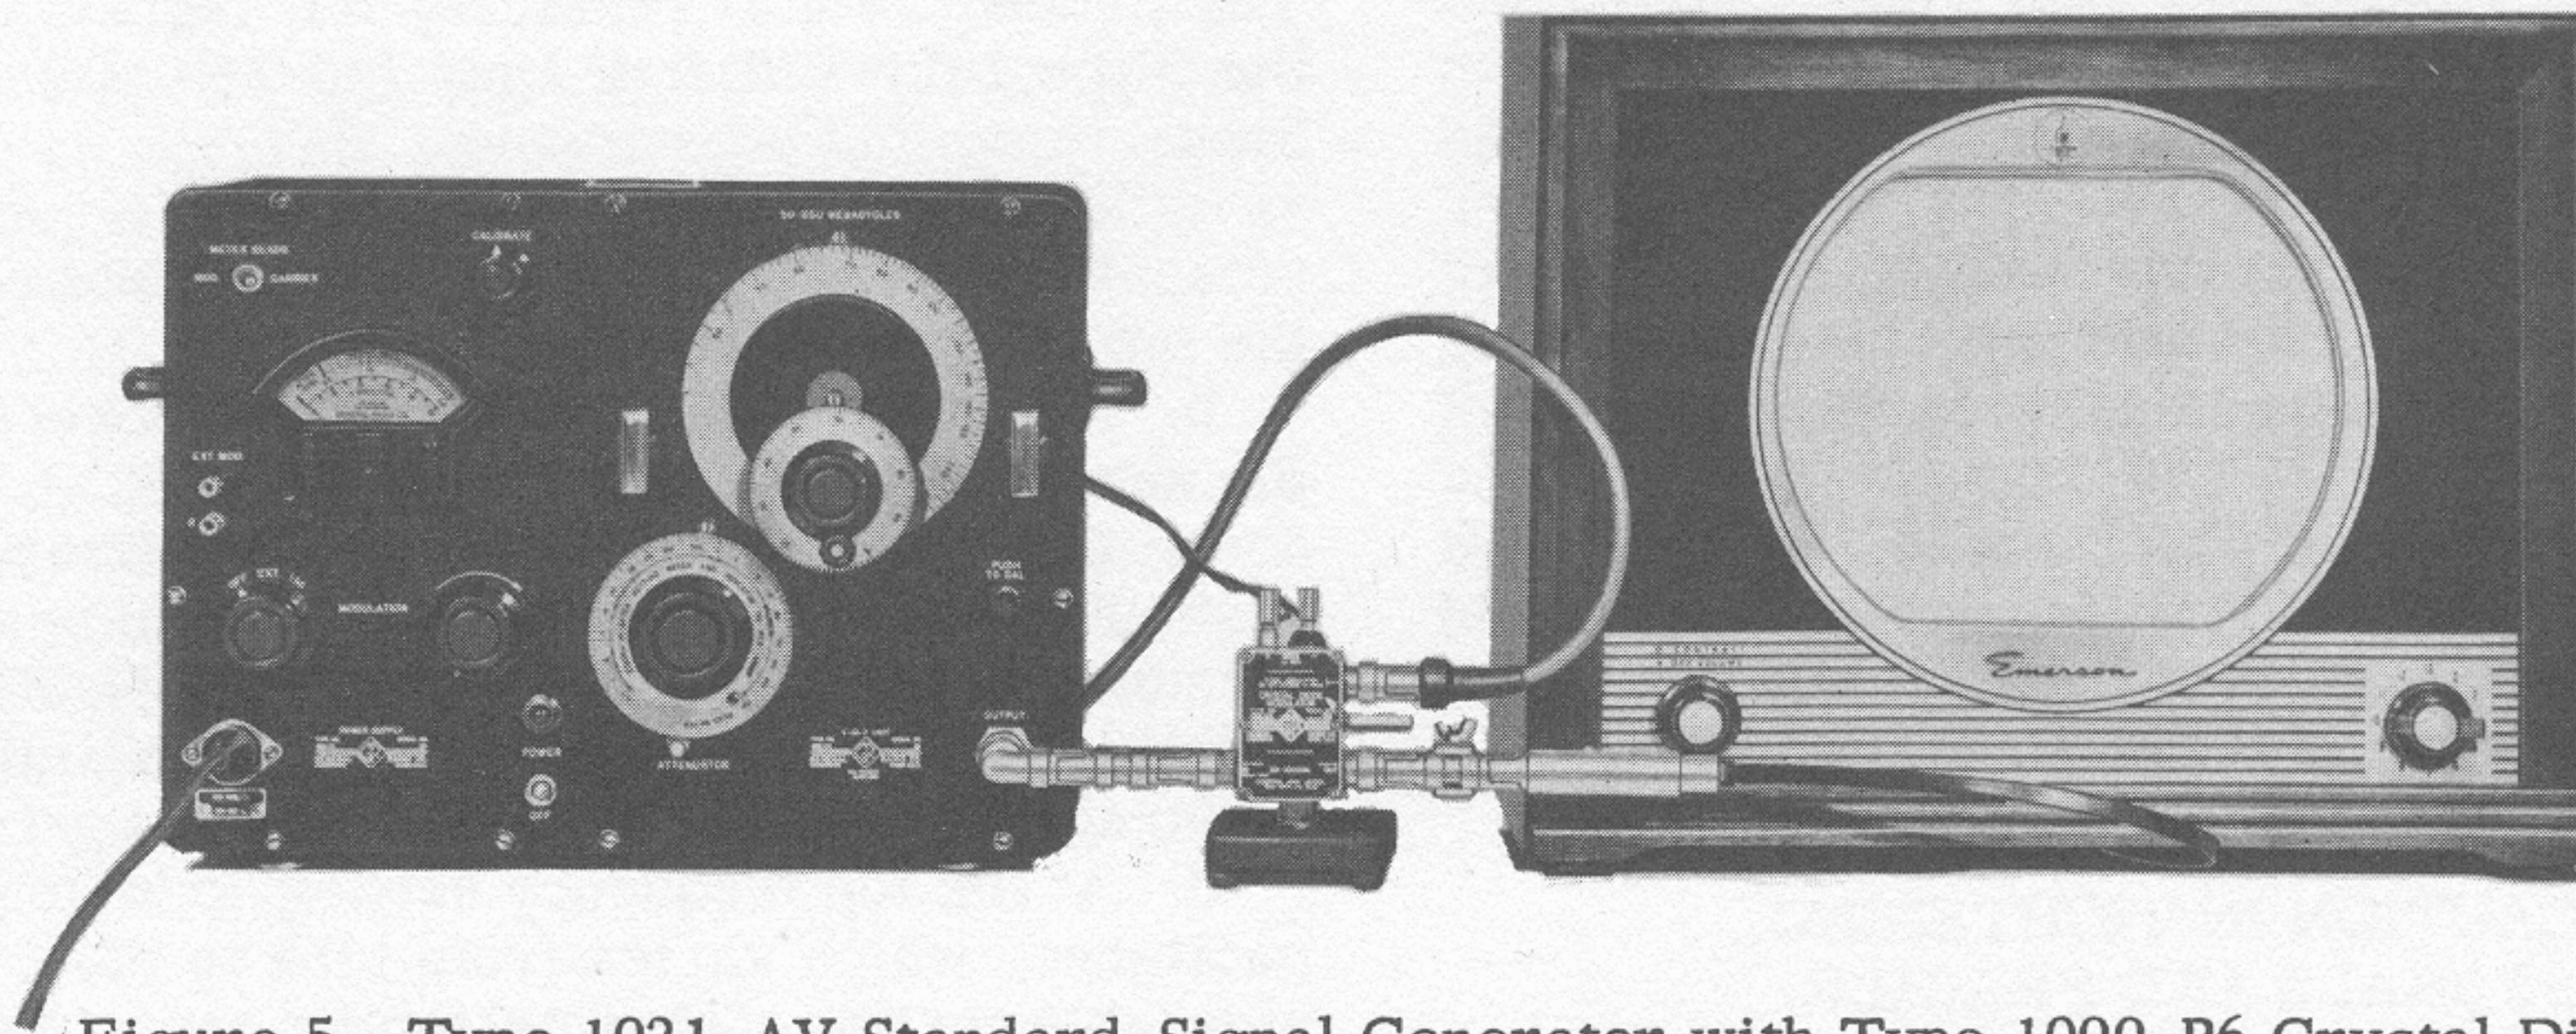

Figure 5. Type 1021-AV Standard-Signal Generator with Type 1000-P6 Crystal Diode Modulator, Set Up for Tests on Television Receiver.
3.9.2 TELEVISION MODULATION. (See Figure 5.) In the Type 1000-P6 Crystal Diode Modulator¹, modulating-frequency voltages are used to vary the resistance of a Type 1N21-B crystal. Therefore, the r-f output of the Standard-Signal Generator can be amplitude-modulated with no incidental fm if the Crystal Diode Modulator is inserted ahead of the load. The modulating-frequency characteristic is flat from zero to several megacycles, and down only 2 db at 5 Mc. A convenient source of video modulation voltages is a television receiver tuned to a local channel. The Type 1000-P6 Modulator is fitted with Type 874 coaxial terminals for the input and output connections and for the modulation circuit. The modulation range is from zero to about 50 percent. The modulator is designed to operate from a 50-ohm source into a 50-ohm load. To avoid distortion, the r-f input to the crystal modulator must be limited to 50 millivolts. The insertion loss is about 12 db over the r-f range of from 20 to 1000 Mc.